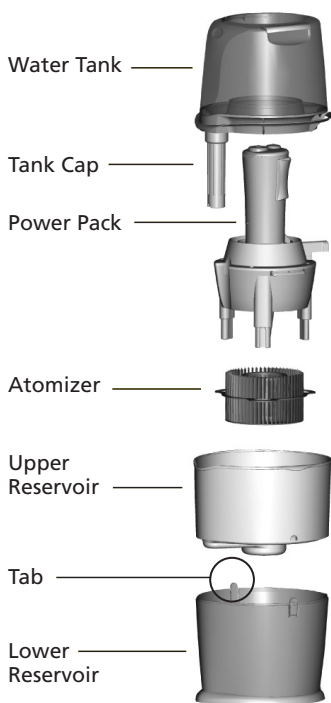

Figure 14
2. Attach the Upper Reservoir to the Lower Reservoir by engaging the two tabs on the sides. See Figure 14.